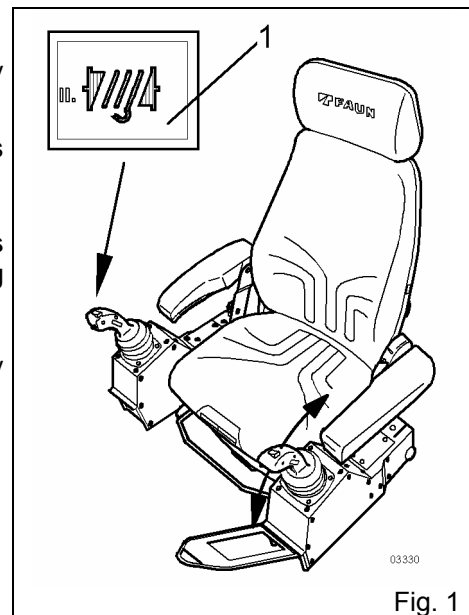

Fig. 1
- Actuate the rocker switch (Fig. 1, item 1) to the left. The auxiliary hoisting gear is connected.
The hoisting gear speed can be controlled depending on the travel of the crane control lever (see Fig. 1) and by increasing the hoisting gear speed.
- Change over rocker switch (Fig. 1, item 1) and rocker switch 25; now the auxiliary hoisting gear is switched OFF.